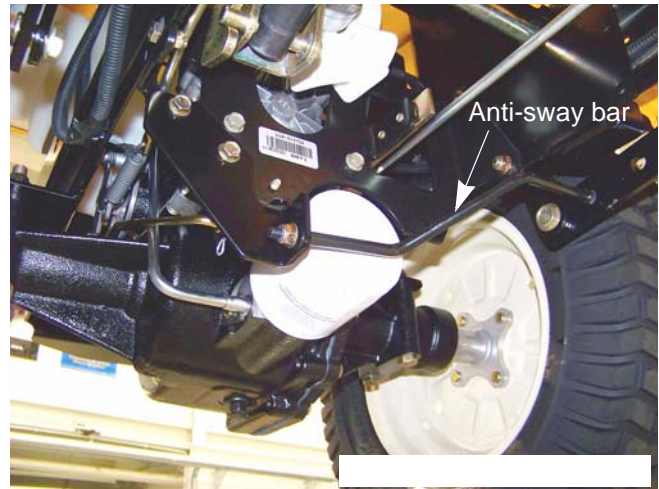

Figure 5.11
3. Remove the nut that secures the anti-sway rod to the transmission torque bracket. See Figure 5.11.